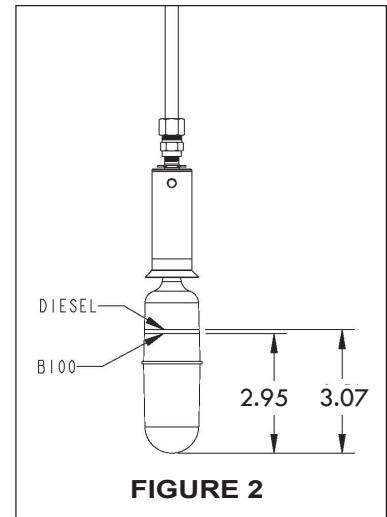

FIGURE 2
3. Refer to Fig. 2. Select the measurement for the fuel you will be storing.